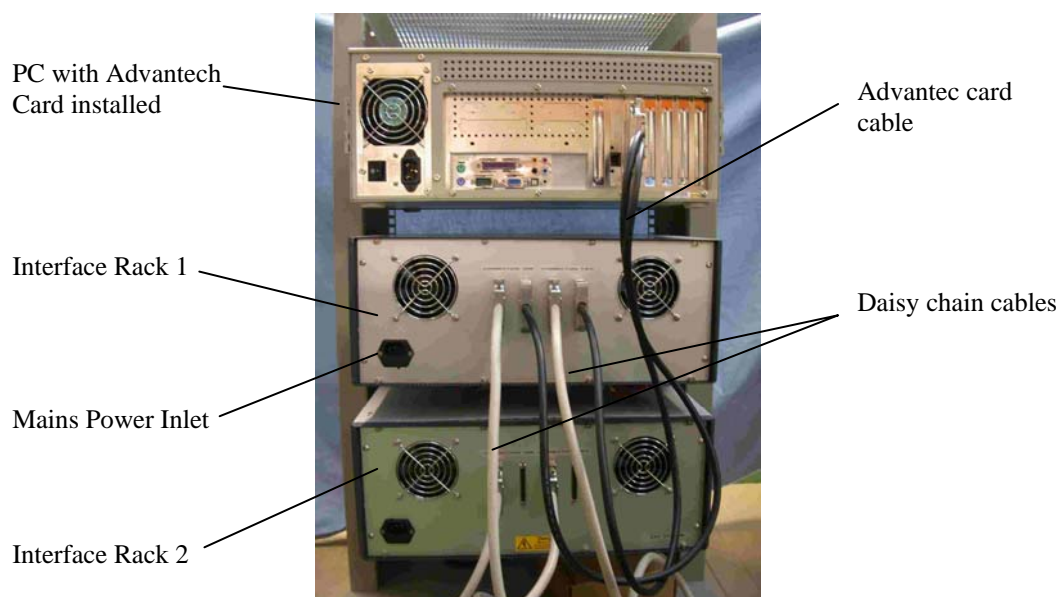

Figure 2: Rear panel connections
6. Connect the BNC2 interface to the PC using the Advantec card cable (see figure 2). Daisy chain additional interface units as required using daisy chain cables (P/N 80626-11). If more than one interface unit is used it may be necessary to change the rack address on the additional interfaces. The rack addresses are usually set up as required when shipped from the factory. For information on selecting rack address please contact Campden Instruments.
8. Connect the interface racks to the Mains power. The IEE inlet socket is on the rear of the interface rack (see figure 2).